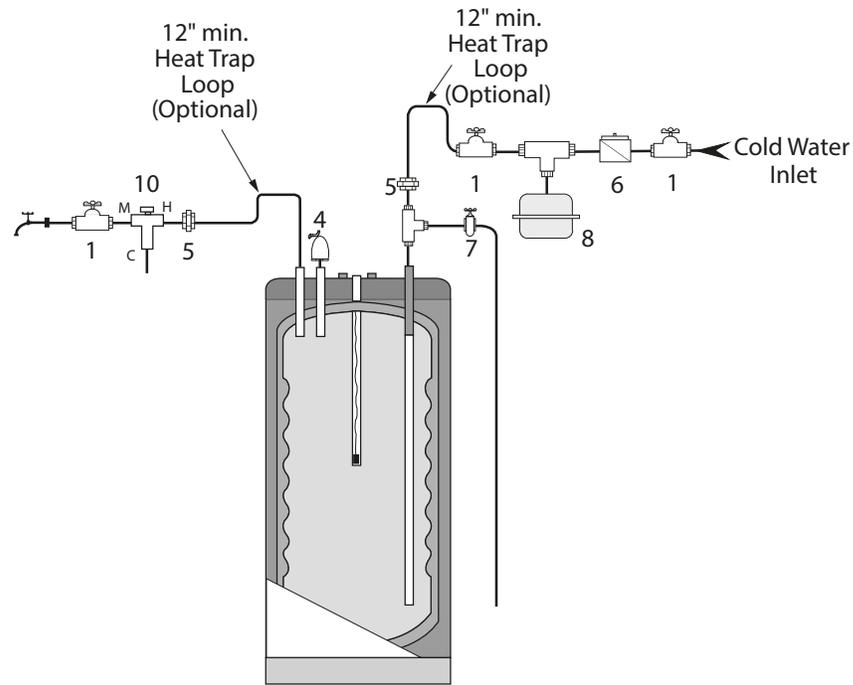
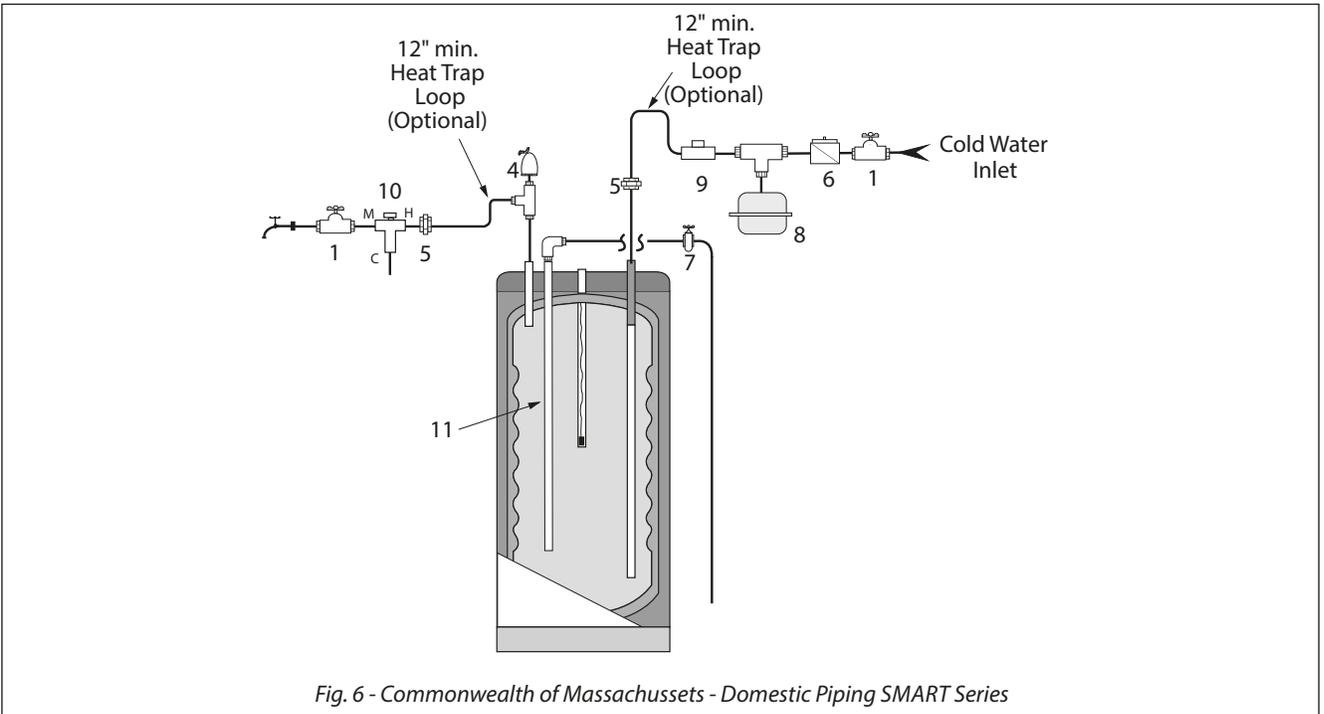

Fig. 2 - Standard Installation - Domestic Piping - SMART Series
Fig. 6 - Commonwealth of Massachusetts - Domestic Piping SMART Series
- Install T&P relief valve in the **Auxiliary** connection located behind the air vent on the top of the water heater (Refer to *Fig. 2 on page 7*).
- Install a 3/4" NPT elbow to the Auxiliary connection, refer to *Fig. 6 on page 9*.
- For domestic water piping diagram, refer to *Fig. 2 on page 7 thru Fig. 6 on page 9*.